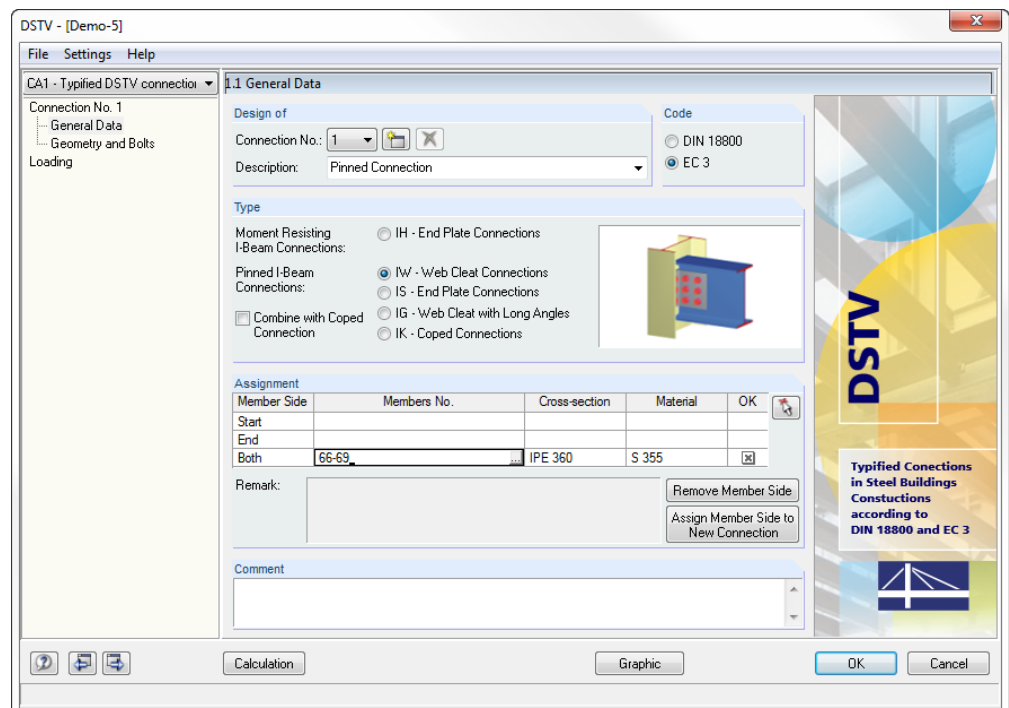

Figure 4.2: Table 1.1 General Data
Moreover, it is possible to combine coped connections with pinned web cleat (IW) or end plate (IS) connections. You find the corresponding setting in table 1.1 *General Data* where you can tick the check box *Combine with Coped Connection* (see Figure 4.2, page 20). If the check box is ticked, table 1.3 *Geometry of Coped Beam* is activated for defining the coped connection (instead of entering data in table 1.2 available for "real" coped connections). The advantage is that DSTV checks the corresponding connection and the connection's remaining bearing capacity at the same time.